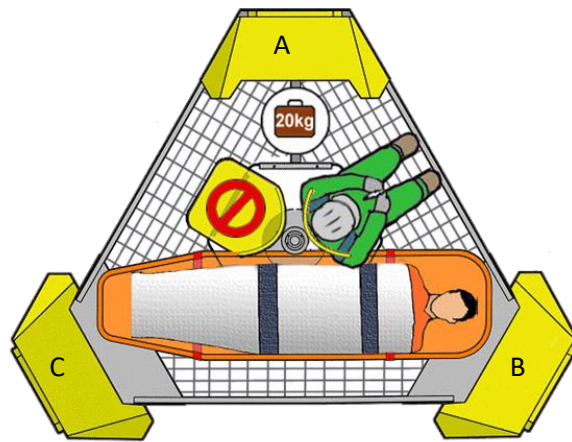

Figure 7: Stretcher Mode Arrangement
5.12.1 Converting FROG-3 to Stretcher Mode (Figure 7)
- iv. Place the head-end of the stretcher on to the stretcher frame and slide the stretcher into position as per Figure 7: Stretcher Mode Arrangement.